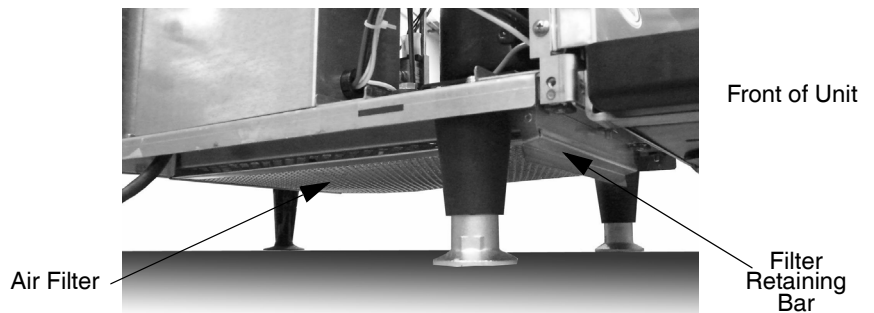

Figure 31. Air Filter Installation
5.	Set the filter into the filter holding bracket toward the rear of the unit and flip down the filter retaining bar to hold the air filter in place, as shown in Figure 31.